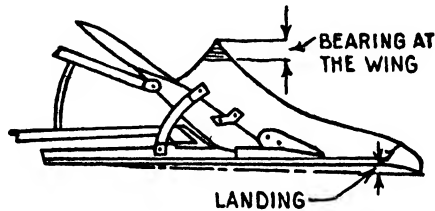

FIG. 75
4. Continue to hammer alternately on the end and on the top until the point is square instead of rounded and a line across the point forms slightly less than a right angle with the bar side. Hammer or file the top of the point until it is tapered abruptly, to a 45 degree angle. The point should be turned toward the bar side about  $\frac{1}{8}$  inch to  $\frac{1}{4}$  inch as a "landing." Fig. 75.